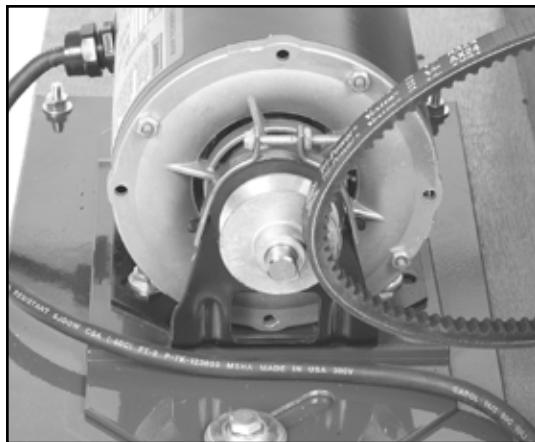

Fig 41 - Remove belt from motor pulley
2. Loosen the motor mount nuts, sliding the motor toward the saw so that the belt can be removed from the motor pulley (fig 41).